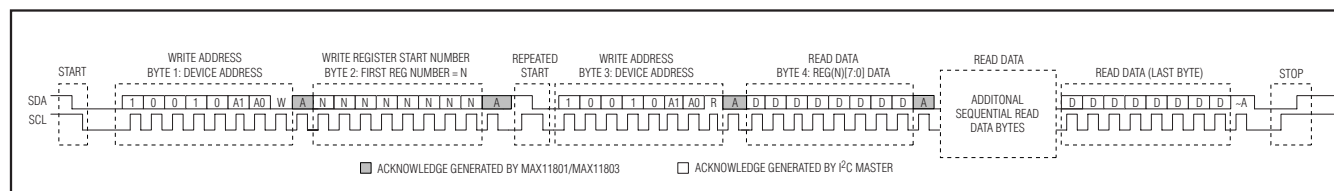

Figure 24. I²C Multiple Register Read Sequence
The read sequence does not limit the number of bytes to be read. The internal register counter keeps incrementing as additional bytes are requested. The first byte out is Reg(N) as shown in Figure 24. The next byte out is Reg(N+1). The next byte out is Reg(N+2), and so on. The programmer needs to keep track of the incremented register address. Acknowledge pulses from the master are not required to autoincrement the internal register location. The internal register location updates on each byte. See the *Command and Register Map* section for details governing the incrementing of register addresses.